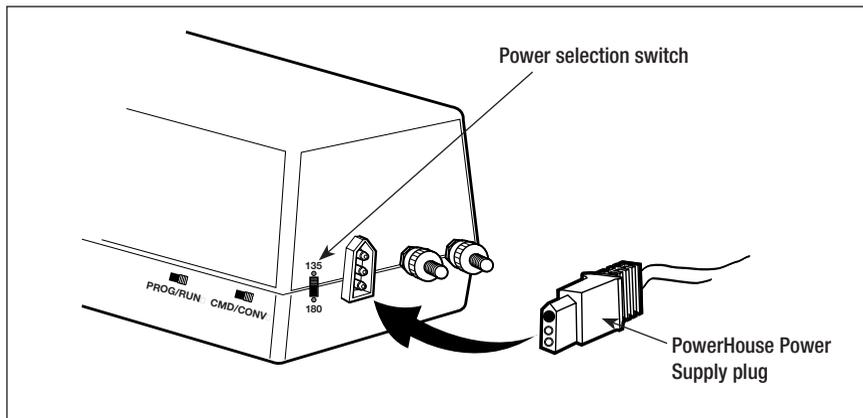

Figure 5. PowerMaster Installation
1. Insert the Power House Power Supply's connector plug into the PowerMaster's connector jack. Refer to Figure 5 below.